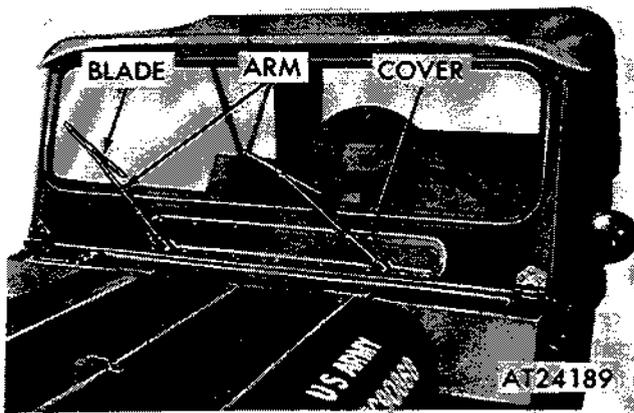

Figure 2-382. Windshield assembly on M151A2, M825, and M718A1 vehicles.
d. *Windshield, Windshield Wipers and Washer (M151A2, M825, and M718A1 vehicles).* The hinged one-piece glass windshield assembly (fig. 2-382) can be folded forward horizontal to the hood. The electrical motor and switch assembly (fig. 2-250) for the windshield wipers is mounted to the lower part of the windshield assembly just in front of the driver's seat. The switch (control knob) has
a. *Removal.* Lift wiper arm away from windshield so blade is completely off windshield (fig. 2-382). Grasp inner end of blade and remove nut and screw securing blade to windshield wiper arm. Remove wiper blade.
(1) Remove both wiper arm and blade assemblies (fig. 2-382).
(2) Remove 18 screws securing cover and gasket assembly (fig. 2-382).